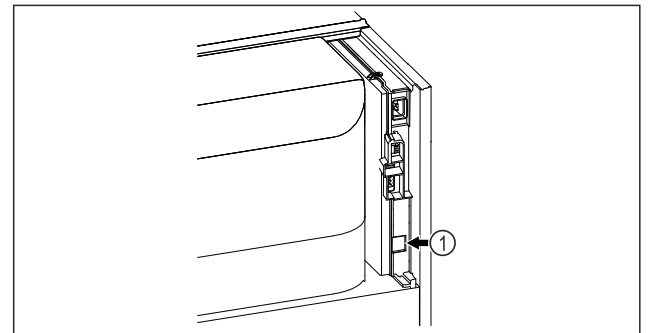

Fig. 95
- SmartModule Fig. 95 (1) is in use.